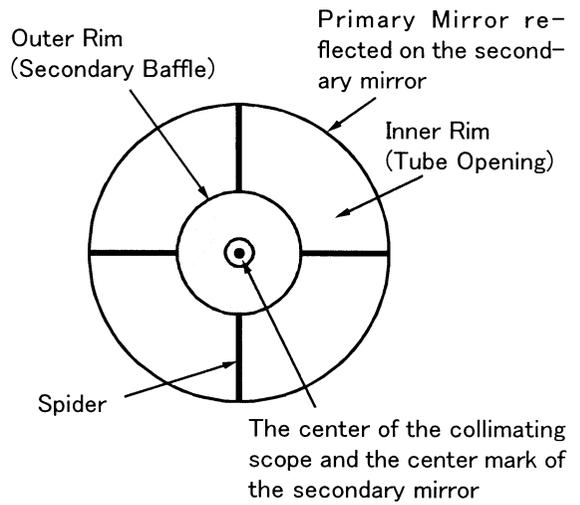

Fig.1
1. The secondary mirror has a center dot to aid in collimation. Slide the tube of the collimating telescope until the reflection of the spider on the primary mirror is visible (Fig.1).